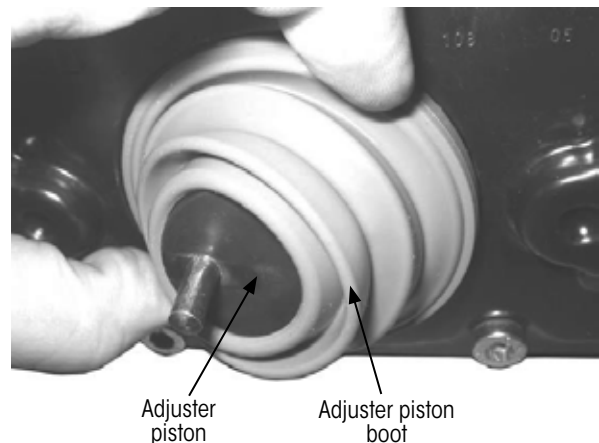

Figure 76: Installing adjuster piston boot
- Slide** a new and grease-free adjuster piston boot (Figure 76) over the adjuster piston.